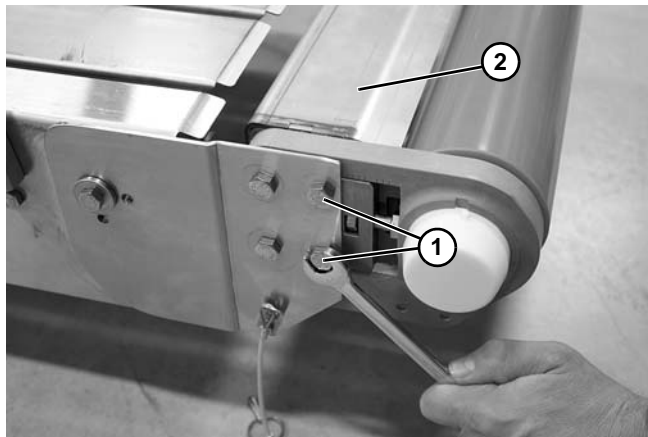

Figure 76
Support bracket (Figure 76, item 2) will not be attached and could fall.
2. Remove two headplate bolts (Figure 76, item 1). Repeat on opposite side of the conveyor.